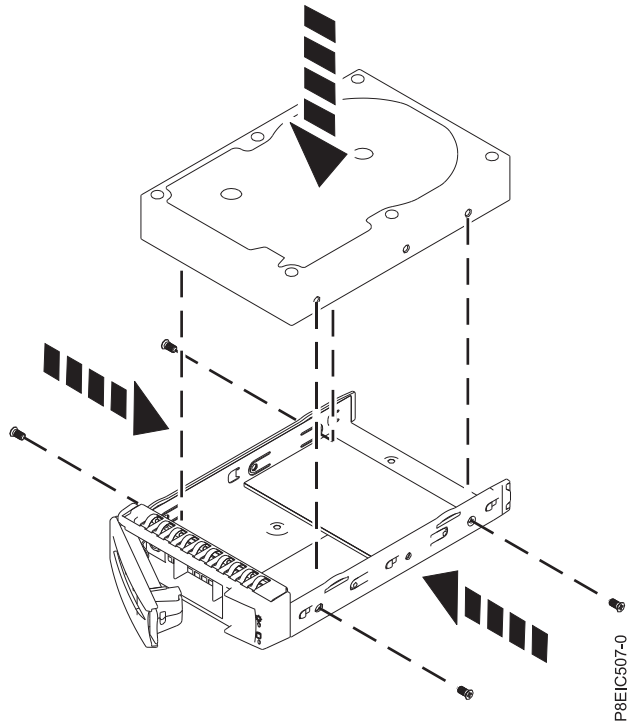

Figure 59. Mounting the 3.5 inch drive in the tray
- A 3.5 inch drive fills the tray, as shown in Figure 59. Fasten the drive to the sides of the tray with four screws (2 on each side).